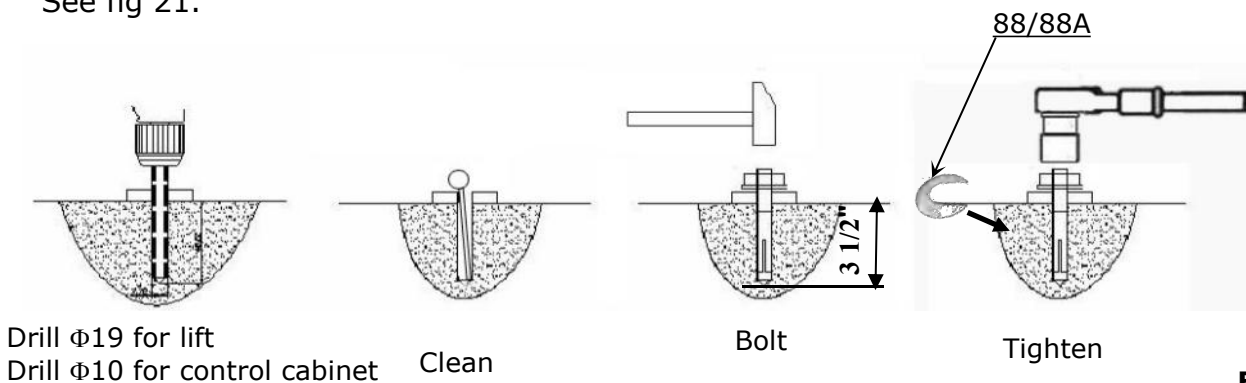

Fig.21
2.2 Drill the holes for the anchor bolt with the rotary hammer drill, type the anchor bolt into the ground, use shims to level the bolts and then fasten with ratchet spanner. See fig 21.